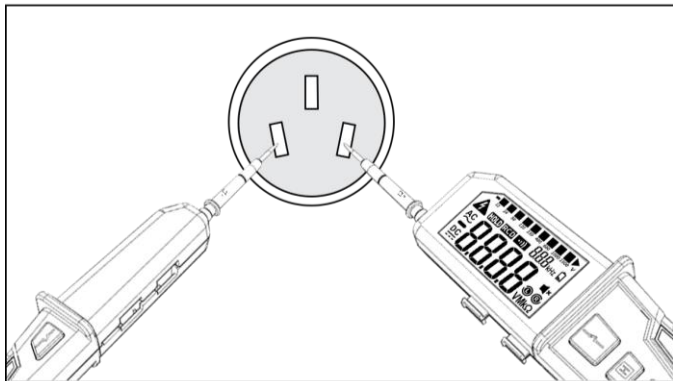

Fig.3
1. Before the formal testing, select a known voltage object, and then connect the two probes to it, such as a 220V socket, to ensure the accuracy of the tester (see Figure 3). This tester cannot test AC or DC voltages below 5V. When testing a voltage of $<5\text{Vac/dc}$, the LCD will display "---".